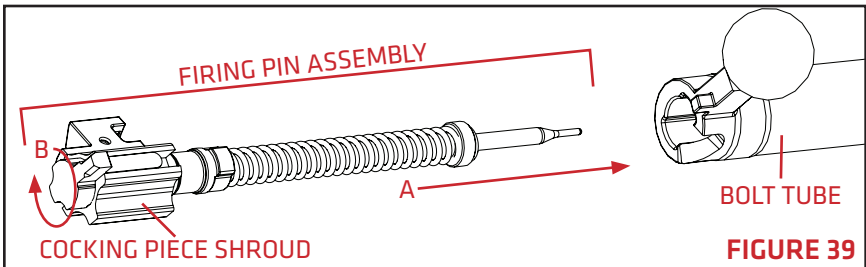

FIGURE 39
3. Insert the firing pin assembly into the bolt tube (**FIGURE 39-A**) and rotate clockwise to lock the firing pin assembly into the cocked position (**FIGURE 39-B**).